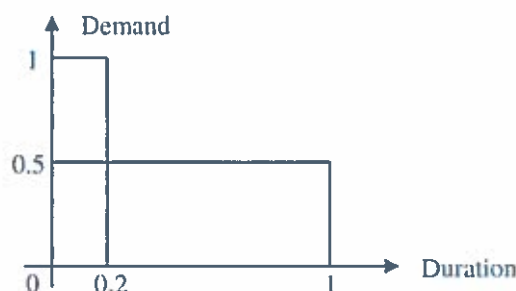

Figure Q3.2- Normalised load duration curve.
- ii) Explain the advantages and disadvantages of connecting this wind farm to 11kV (1) or 33kV (2). [4]
- iii) The contribution to security of supply of two identical distributed generation units is 75%. Determine the availability of the distributed generation units considering the normalised load duration curve shown in Figure Q3.2. [5]